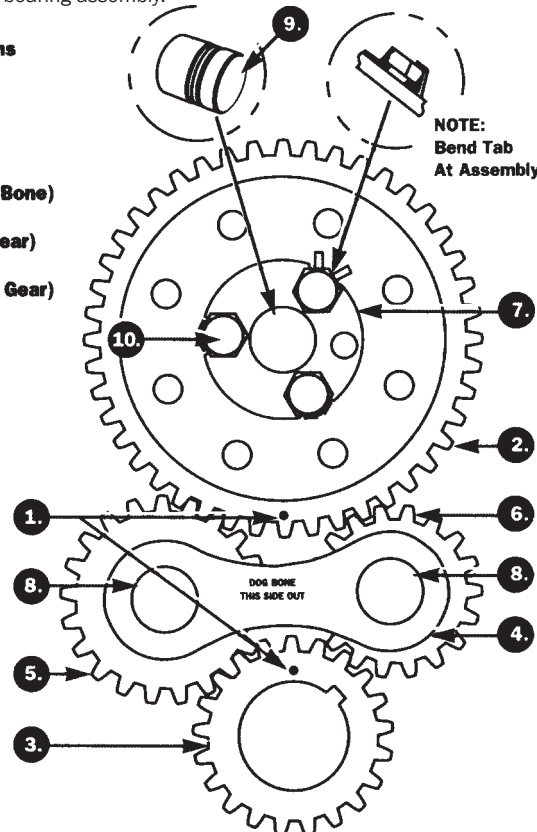

FIGURE 1
10. Install dog bone idler assembly as in **figure 1**.